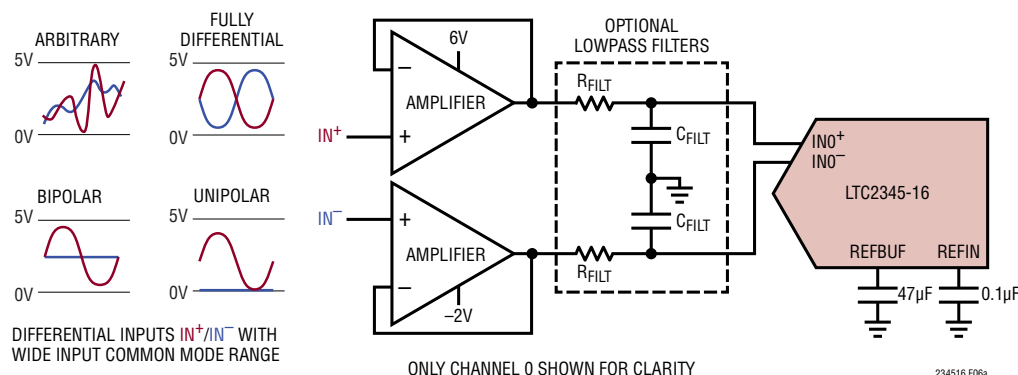
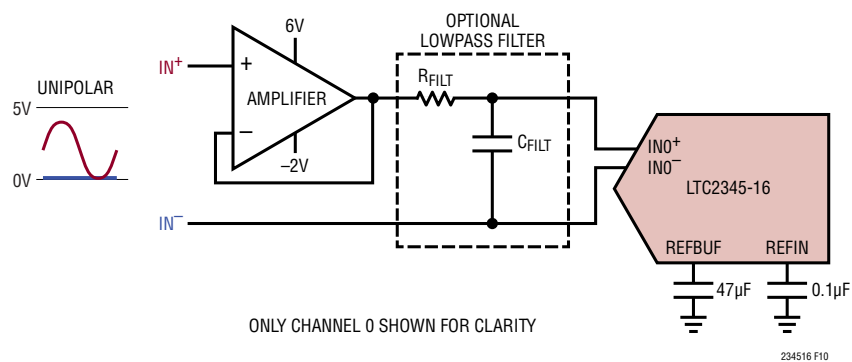

Figure 6a. Buffering Arbitrary, Fully Differential, Bipolar, and Unipolar Signals. See Table 2 For Recommended Amplifier and Filter Combinations
Figure 10. Buffering Single-Ended Input Signals. See Table 2 For Recommended Amplifier and Filter Combinations
design. In many applications, connecting a channel's  $IN^+$  and  $IN^-$  pins directly to the existing signal chain circuitry will not allow the channel's sampling network to settle to 16-bit resolution within the ADC acquisition time ( $t_{ACQ}$ ). In these cases, it is recommended that two unity-gain buffers be inserted between the signal source and the ADC input pins, as shown in Figure 6a. Table 2 lists several amplifier and lowpass filter combinations recommended for use in this circuit. The LT6237 combines fast settling, high linearity, and low offset with  $1.1\text{nV}/\sqrt{\text{Hz}}$  input-referred noise density, enabling it to achieve the full ADC data sheet SNR and THD specifications, as shown in the FFT plots in Figures 6b to 6e. In applications where slightly degraded SNR performance is acceptable, it is possible to drive the LTC2345-16 using the lower-power LT6234. The LT6234 combines fast settling, good linearity, and low offset with  $1.9\text{nV}/\sqrt{\text{Hz}}$  input-referred noise density, enabling it to drive the LTC2345-16 with only 0.3dB SNR loss compared with the LT6237 when a  $40.2\Omega$ , 1nF filter is employed. As shown in Table 2, the LT6237 may be used without a lowpass filter at a loss of  $\leq 1\text{dB}$  SNR due to increased wideband noise.
**Table 2. Recommended Amplifier and Filter Combinations for the Buffer Circuits in Figures 6a and 9. AC Performance Measured Using Circuit in Figure 6a,  $\pm 4.096\text{V}$  Range for Fully Differential Input Drive,  $\pm 0.048\text{V}$  Range for Bipolar Input Drive**
Figure 6b. Two-Tone Test.  $IN^+ = -7\text{dBFS}$  2kHz Sine,  $IN^- = -7\text{dBFS}$  3.1kHz Sine, Common Mode = 2.5V, 32k Point FFT,  $f_{\text{SAMPL}} = 200\text{ksps}$ . Circuit Shown in Figure 6a with LT6237 Amplifiers,  $R_{\text{FILT}} = 40.2\Omega$ ,  $C_{\text{FILT}} = 1\text{nF}$
Figure 6c.  $IN^+/IN^- = -1\text{dBFS}$  2kHz Fully Differential Sine, Common Mode = 2.5V, 32k Point FFT,  $f_{\text{SAMPL}} = 200\text{ksps}$ . Circuit Shown in Figure 6a with LT6237 Amplifiers,  $R_{\text{FILT}} = 40.2\Omega$ ,  $C_{\text{FILT}} = 1\text{nF}$
Figure 6d.  $IN^+ = -1\text{dBFS}$  2kHz Bipolar Sine,  $IN^- = 2.5\text{V}$ , 32k Point FFT,  $f_{\text{SAMPL}} = 200\text{ksps}$ . Circuit Shown in Figure 6a with LT6237 Amplifiers,  $R_{\text{FILT}} = 40.2\Omega$ ,  $C_{\text{FILT}} = 1\text{nF}$
Figure 6e.  $IN^+ = -1\text{dBFS}$  2kHz Unipolar Sine,  $IN^- = 0\text{V}$ , 32k Point FFT,  $f_{\text{SAMPL}} = 200\text{ksps}$ . Circuit Shown in Figure 6a with LT6237 Amplifiers,  $R_{\text{FILT}} = 40.2\Omega$ ,  $C_{\text{FILT}} = 1\text{nF}$
While the circuit shown in Figure 6a is capable of buffering single-ended input signals, the circuit shown in Figure 10 is preferable when the single-ended signal reference level is inherently low impedance and doesn't require buffering. This circuit eliminates one driver and lowpass filter, reducing part count, power dissipation, and SNR degradation due to driver noise. Using the recommended driver and filter combinations in Table 2, the performance of this circuit with single-ended input signals is on par with the performance of the circuit in Figure 6a.